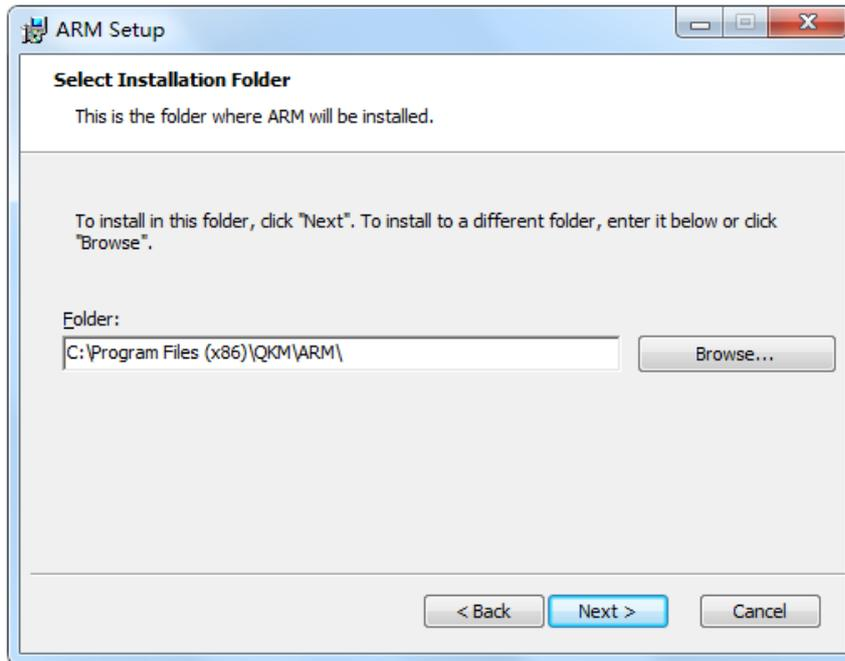

Figure 2-3 Select Installation Folder
Step 3 Select the installation folder (recommended on non-C drive) and click on "Next", as shown in Figure 2-3.